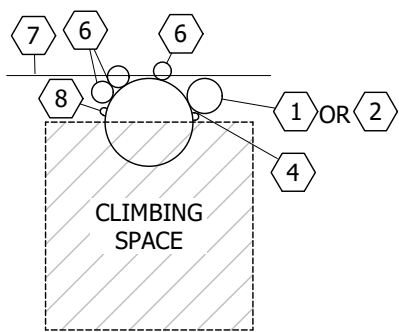

FIGURE 3
- Ⓑ FOR NEW CONSTRUCTION WITH AN EXISTING SDG&E RISER ON THE POLE (FIGURE 3), ONE THREE-INCH RISER MAX. ON THE POLE AND ONE THREE-INCH RISER MAX. ON THE BACKSIDE OF THE LADDER ARM BRACKET ARE PERMITTED BACK TO BACK.